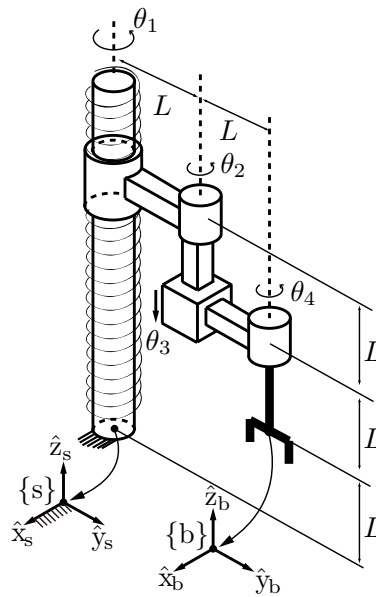

Figure 3: An open chain with a screw joint.
4. (1/10) The four-DOF robot of Figure 3 is shown in its home configuration. Joint 1 is a screw joint of pitch  $h$ . Given the end-effector position  $\mathbf{p} = (p_x, p_y, p_z)$  and orientation  $\mathbf{R} = e^{[\hat{\mathbf{z}}]\alpha}$ , where  $\hat{\mathbf{z}} = (0, 0, 1)$  and  $\alpha \in [0, 2\pi)$ , find an analytical inverse kinematics solution  $(\theta_1, \theta_2, \theta_3, \theta_4)$  as a function of  $p_x, p_y, p_z$ , and  $\alpha$ . How many inverse kinematic solutions will exist for a given end-effector frame pose?